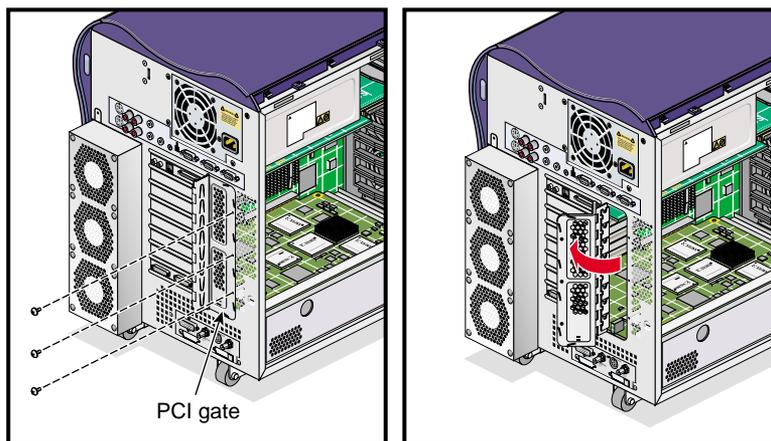

Figure 3-26 Opening the PCI Gate
2. Remove the three screws that secure the PCI gate. Then open the PCI gate (see Figure 3-26).
1. Remove the three screws that secure the PCI gate. Then open the PCI gate (see Figure 3-26).